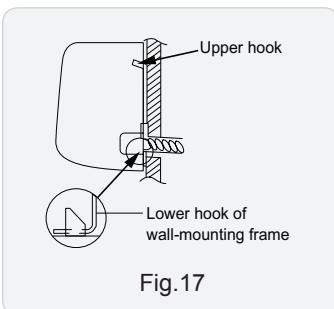

Fig.17
(5) Check if the indoor unit is installed firmly and closed to the wall. (As show in Fig.17)